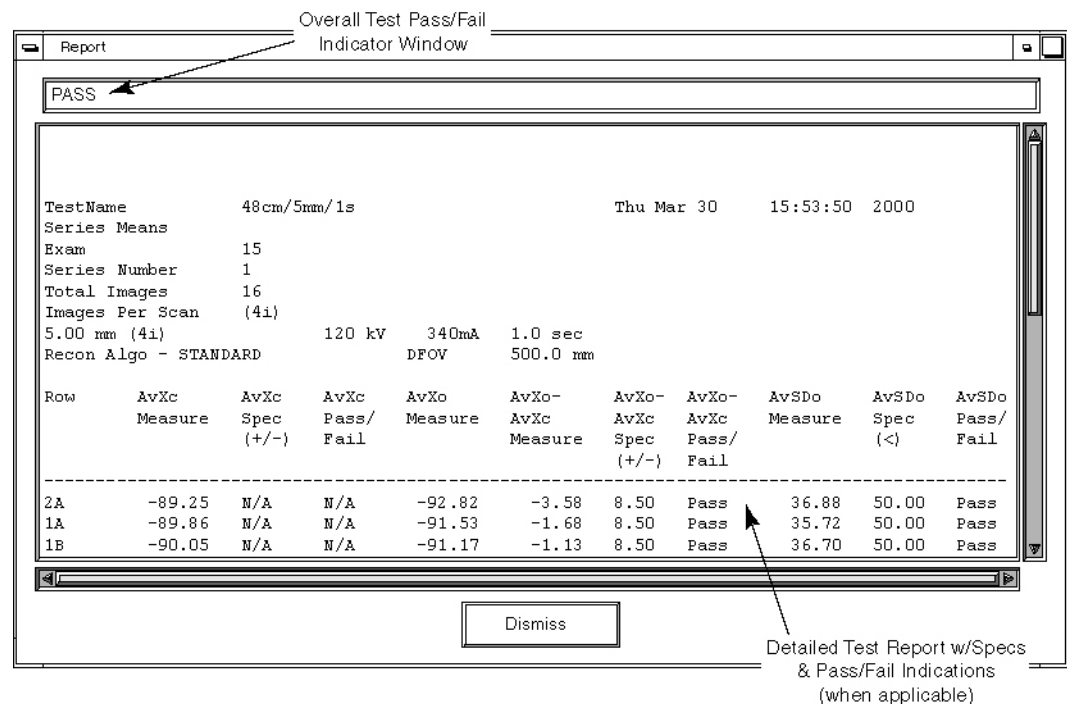

Figure 3-3 Image Analysis Tool User Interface - Test Results Report Window
- a.) Verify the Overall Test Pass/Fail Indicator Window of the Report display indicates PASS. (See Figure 3-3, on page 54.)